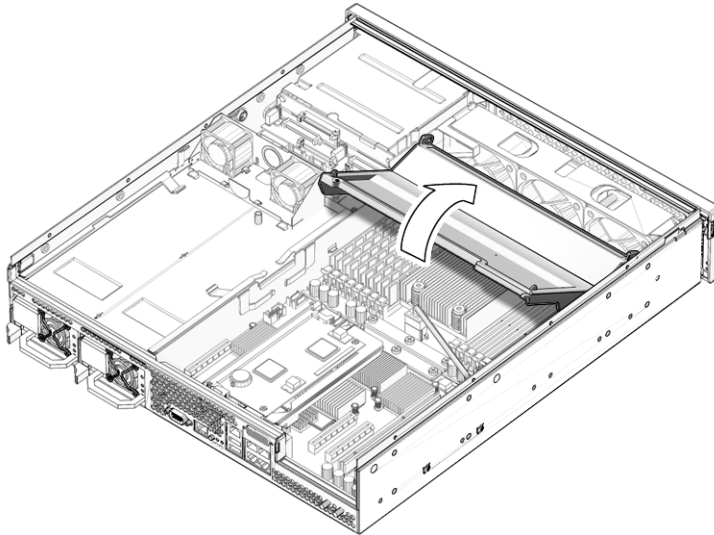

FIGURE 4-7 Raising the DIMM/CPU Duct
2. Raise the DIMM/CPU duct into the vertical position (FIGURE 4-7).